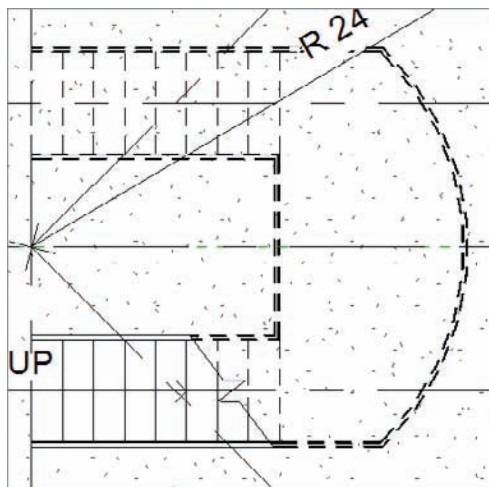

FIGURE 10.12 The stairs as displayed in the plan
5. Go to Level 1. Your stairs should look like Figure 10.12.